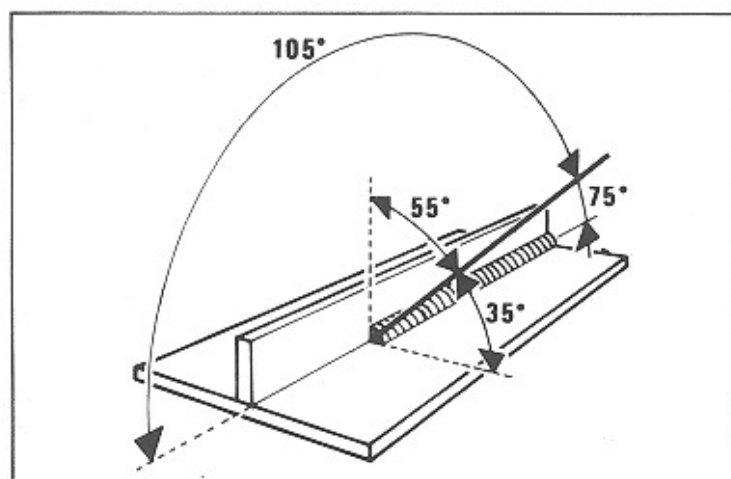

Fig. 5
- See figure 5 for correct torch inclination.
NOTE: Recommended torch inclination and welding direction are shown in figure 5.